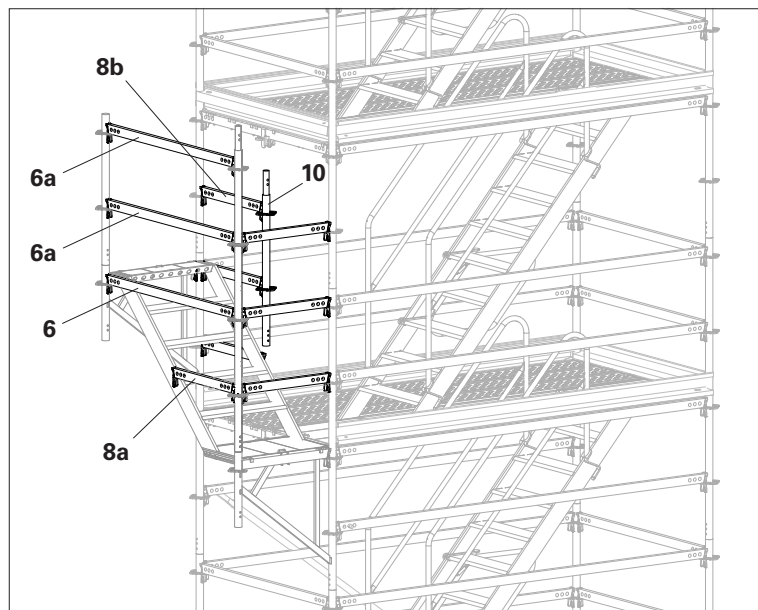

Fig. A8.04
8. Remove Toeboard Steel UPY 150 for access to the Stair. (Fig. A8.04)